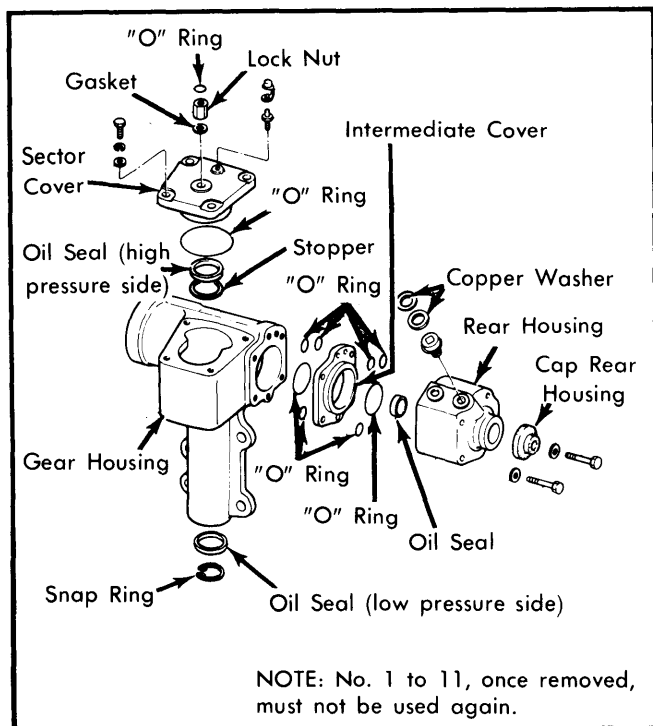

Fig. 1 Power Steering Gear Exploded View
**NOTE** – Overhaul of steering gear is limited to oil seal replacement. If any further repair is necessary, replace entire steering gear assembly. According to location of oil leak, disassembly is divided into three categories as shown Fig. 1.